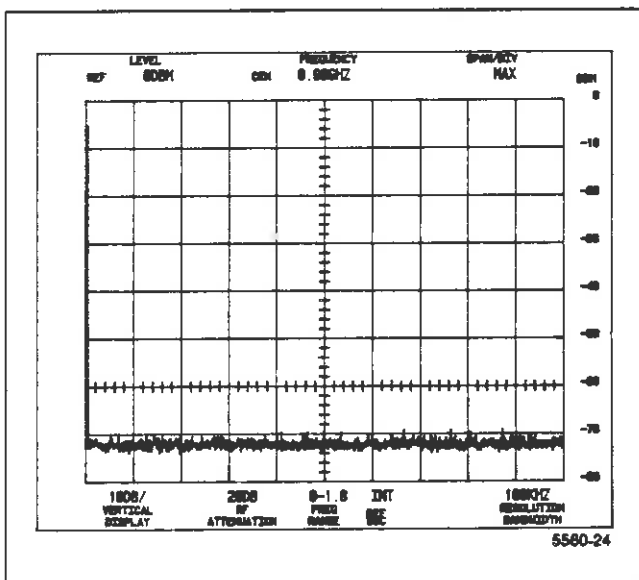

Figure 4-1. CRT display at initial power-up.
c. The microprocessor runs a memory and I/O test. If no processor system problems are found, the power-up program will complete in approximately 10 seconds, and the instrument will be ready to operate. After the power-up routine, the CRT will initialize as shown in Figure 4-1.